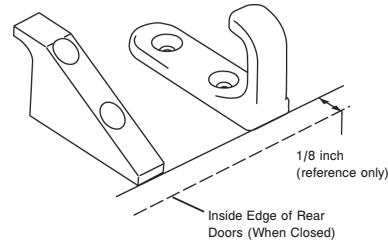

Figure 10 - Safety Hook Placement
3. Center the safety hook on the cot safety bar, with the hook facing the front of the vehicle (Figure 10). For best results, the face of the safety hook which engages the safety bar should be at least 3-3/4" from the leading edge of the door sill (Figure 11).